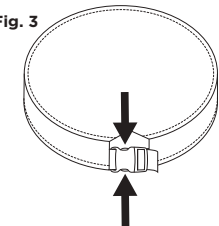

Fig. 3
1. Undo the modular buckle(s) on the sides of the safety top. [Fig. 3]